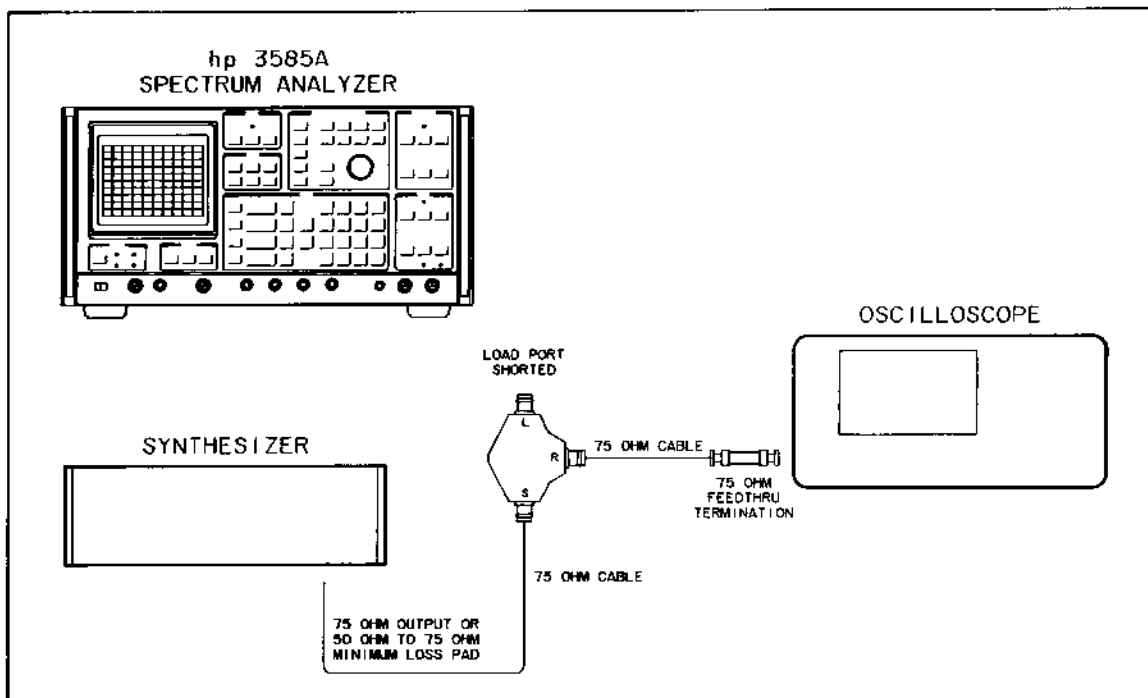

Figure 4-2. 75 Ω Return Loss Test (Operational Verification)
- k. Connect the equipment as shown in Figure 4-2. 75 Ω Return Loss Test.